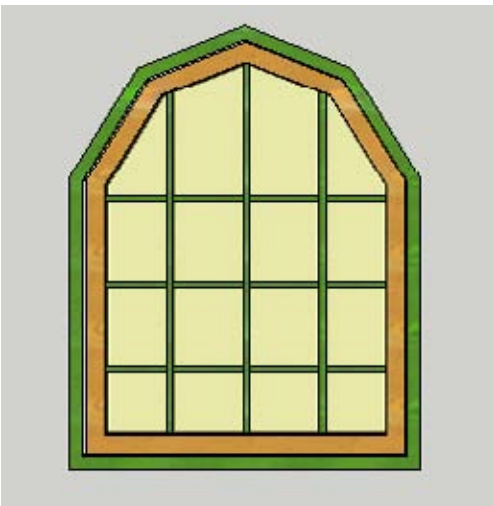

Figure 7-42
1. Download my Irregular Window model from the 3D Warehouse (Figure 7-42). If the window is not already a component (if you downloaded it from the 3D Warehouse in your Internet browser and not via the Components window), make it a component now. The alignment and cutting do not have to be set yet, because this component will become part of a nested component.